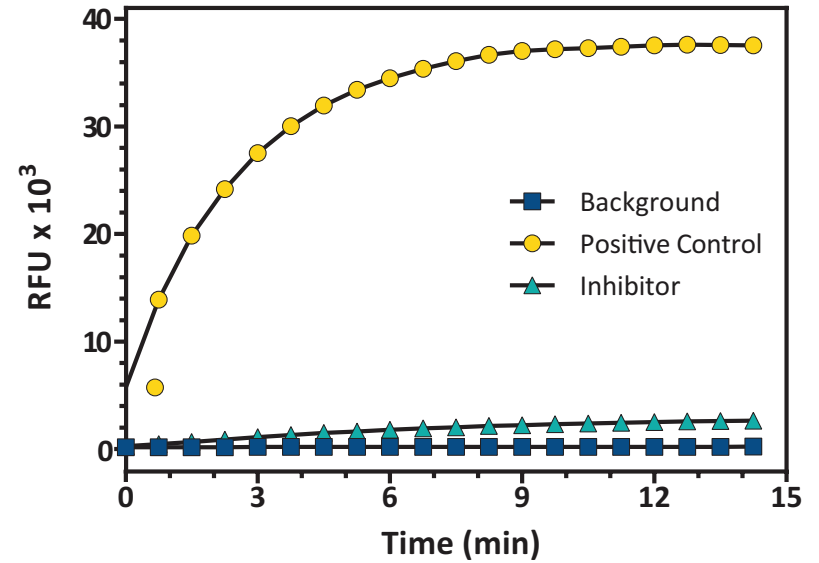

Figure 4. Human polymorphonuclear leukocyte MPO assayed with and without MPO inhibitor.
- a. Plotting the fluorescence values as a function of time to obtain the slope (rate) of the linear portion of the curve. An example of human polymorphonuclear leukocyte MPO assayed with and without MPO inhibitor over time is shown in Figure 4, on page 17.